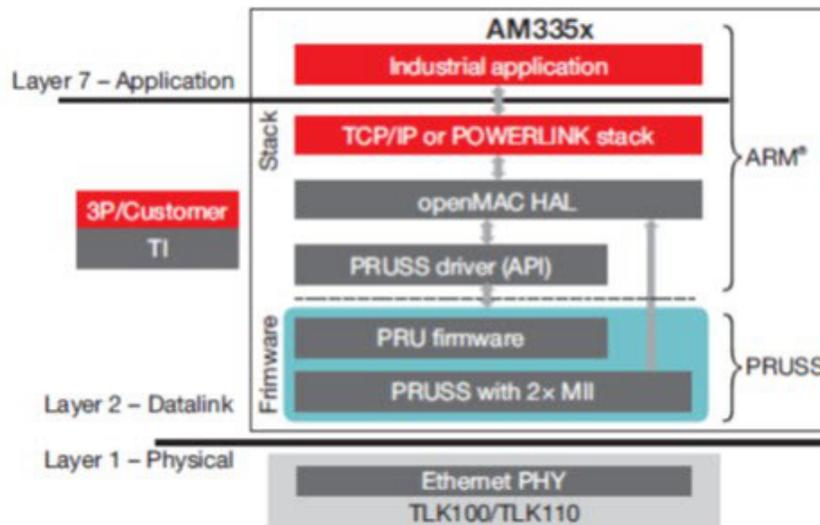

**Figure 2: POWERLINK communication scheme**
Figure 2 shows a POWERLINK cycle. The master is called managing node (MN) and the slave is called controlled node (CN). The start of the isochronous phase is indicated by the CN with a start-of-cycle frame. During the isochronous phase, the MN controls the bus and therefore defines the timing for each slave. Each CN is cyclically polled with a PReq during the isochronous phase. Each slave responds with a PRes. Real-time critical data PDOs transfer at both times. Once the isochronous phase has ended, the MN sends out a start-of-asyncronous frame, after which slaves can send any kind of Ethernet-based data. When the cycle time is over, the procedure repeats.